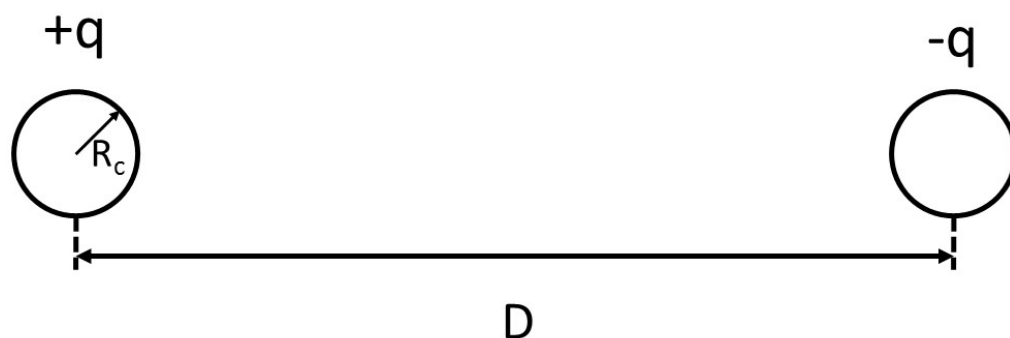

Figure A2 Dual circuit single-phase transmission line
- c.** Figure A2 shows a cross-section through a dual circuit single-phase transmission line in which the two lines have an equal and opposite charge density q . Each conductor has a radius of R_c .
- d.** A transmission system of the type shown in Figure A2 has base conductors (i.e. they have no surrounding insulation material) with a radius $R_c = 20\text{mm}$ and are separated by a distance D of 600mm . If the break-down electric field strength of the surrounding air is $3 \times 10^6 \text{V/m}$, calculate the maximum voltage difference between the conductors that can be sustained to remain below break-down conditions.